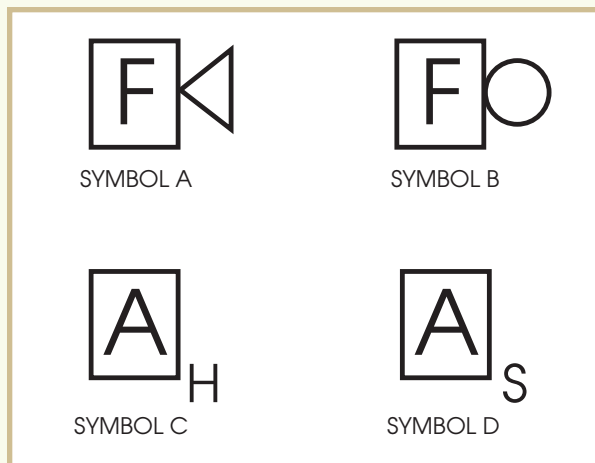

FIGURE A-3—Use this illustration to answer Questions 12 and 13.
12. Look at the symbols shown in **Figure A-3**. Which symbol represents a device used to produce an alarm signal in the event of high temperature?
13. Look at the symbols shown in **Figure A-3**. What are the similarities and differences between Symbol A and Symbol B?